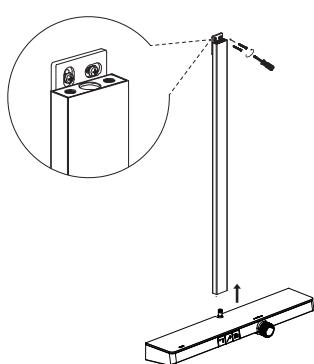

Figure 1
- d) Install the raiser rail to the thermostatic panel and screw it in the wall(Figure 1).